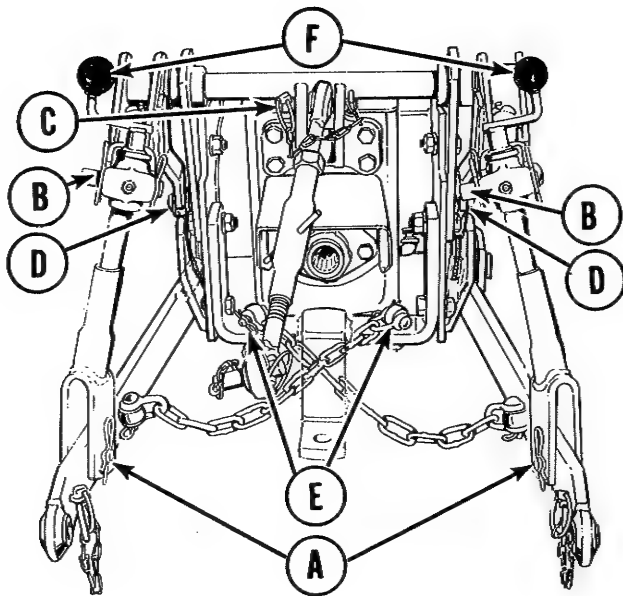
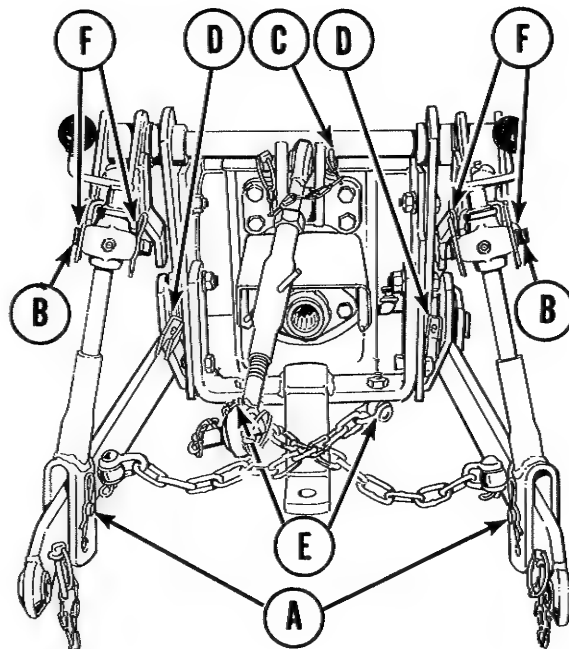
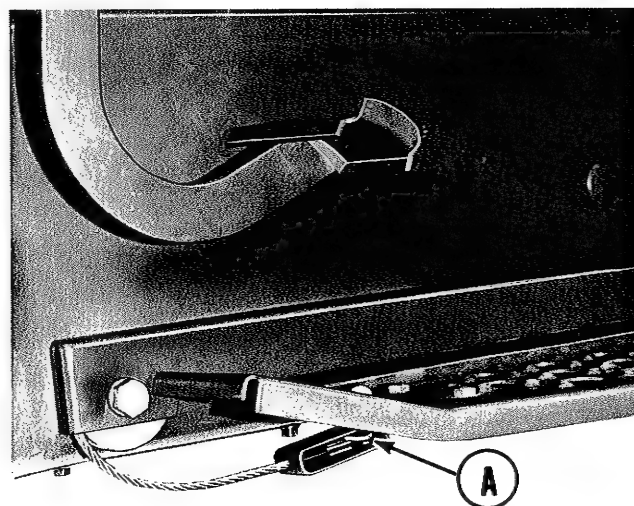

Figure 49. Three - point hitch.
Figure 50. Three - point hitch.
Figure 51. Center lift cable attached to footrest.
THREE POINT HITCH: (OPTIONAL - FACTORY OR FIELD INSTALLED) (Figure 49 and 50) The three-point hitch provides a versatile and convenient means of mounting and controlling rear mounted attachments such as
DRAFT ARMS: The three point hitch on the Simplicity 4040 meets category O dimensions as set by the Society of Automotive Engineers and the American Society of Agricultural Engineers when the draft arms are fastened through the lower holes of the lower lift link (Figure 49, item A). However, because of the unique design of the 4040 tractor, a more effective line of pull to most attachments is achieved by fastening the draft arms through the upper holes of the lower lift link (Figure 50, item A). Unless the attachment owners manual specifies otherwise, the upper holes of the lower lift arms should be used as shown in figure 50.
FLOAT LOCKOUT PINS: When using attachments such as a Simplicity rotary tiller which has its own depth setting device, it is desirable to allow the draft arms to float (move freely up and down). To do this, remove the two spring clips and set the lockout pins with the larger end of the pins exposed (Figure 49, item B). Figure 50, item B shows the lockout pins set so the draft arms are held rigid to the rockshaft arm.
TURNBUCKLE LINK: The turnbuckle link is used to level the attachment fore and aft when at its working depth. Hitching an attachment is made easier by adjusting the link to align the pin holes. To adjust the length of the link, turn the center turnbuckle until the desired length is obtained. The turnbuckle link is adjustable 11-1/2 to 15 inches in length. In addition, two holes are provided in the mounting bracket for attaching the upper link to the tractor. Unless the owners manual for an attachment specifies otherwise, use the top hole (Figure 50, item C). Figure 49, item C shows the turnbuckle attached to the lower hole of the mounting bracket.
CENTER LIFT CABLES: When a center mounted attachment such as the sickle bar or center mounted mower is used, the lift cables should be fastened to the rocker arm with the two pins and spring clips (Figure 49, item D). When no center attachment is mounted the pins and spring clips should be removed as shown at figure 50, item (D) and used to fasten the front of the cables to the underside of the tractor foot rests (Figure 51, item A).
restrain the attachment equally whether it is lowered or raised (Figure 49, item E). They should be attached in this manner when the rotary tiller is used. When using an attachment such as a plow where less restraint is required when it is in the lowered position and more restraint in the raised position, the eyebolts should be turned around so the chains are hooked below the drawbar (Figure 50, item E). If the drawbar has been removed to allow additional clearance such as when cultivating, the eyebolts for the restraining chains can be placed through the lower drawbar mounting holes in the frame. See the attachment manual for more information.
LEVELING CRANKS: (Figure 49, item F) The two leveling cranks can be used to level an attachment mounted to the three point hitch. They can also be used to change the high and low limits of the draft arms. Turn them clockwise if you wish the hitch to raise higher and counter-clockwise to allow the hitch to be lowered closer to the ground. The leveling cranks are also convenient for adjusting the height of the draft arms when hitching an attachment.
REMOVING THE THREE POINT HITCH: The three point hitch may be easily removed from the tractor by removing the spring clips and pins at the 7 positions marked C, E, and F in figure 50. Although the pins holding the draft arms to the tractor frame will not slide all the way out, the spacer and draft arms will slide off the end of the pin after the spring clip has been removed.